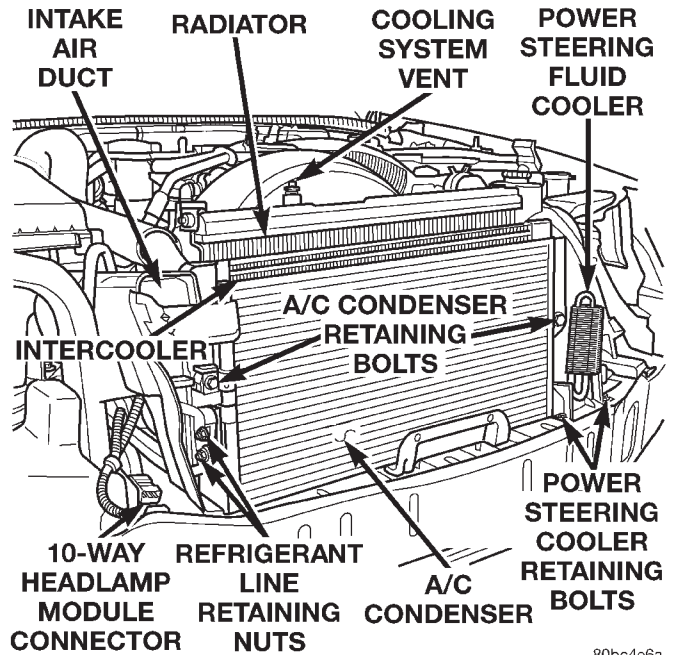

Fig. 10 Cooling Module Assembly
- (32) Remove the intake air duct from the vehicle (Fig. 10).
- (33) Remove the power steering cooler retaining bolts (Fig. 10) and position the cooler aside.
- (34) Remove the suction and discharge lines from the condenser assembly (Fig. 10).
- (35) Remove the fan shroud and both cooling fans as an assembly from the vehicle.